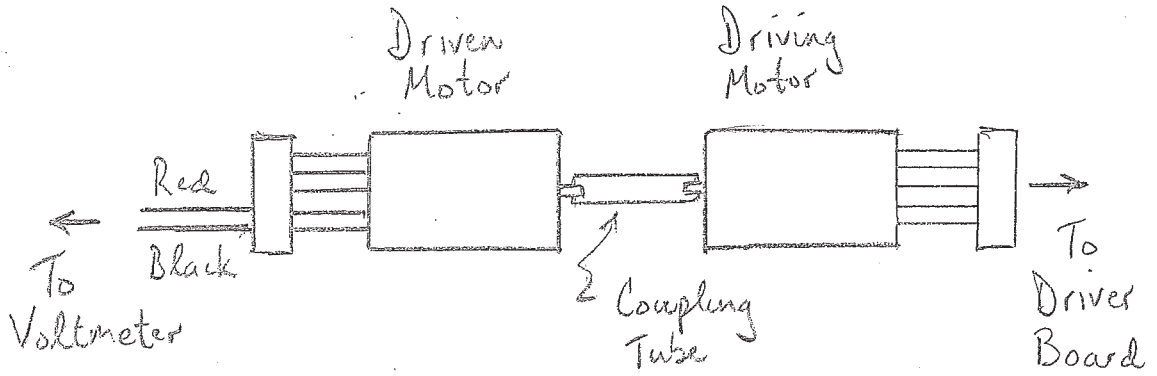

Fig. 3. Configuration for measurement of transducer constant  $T$ .
2. To determine the transducer constant  $T$ , couple two motors as shown in Fig. 3. Use the Arduino to run the driving motor at a constant speed, and use the encoder output of the driving motor to calculate the angular velocity  $\dot{\phi}$  of the driving (and therefore of the driven) motor.